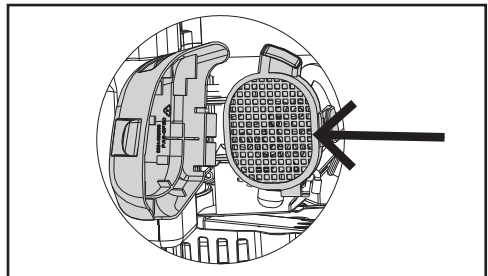

Fig. 16
3. Remove the air filter (see Fig.16).